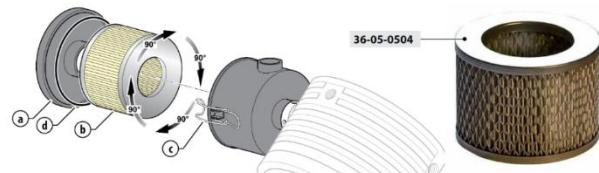

Figure 24. Rotating the air intake filter.
- Replace the O-ring (see "d" Figure 24) with a new one.